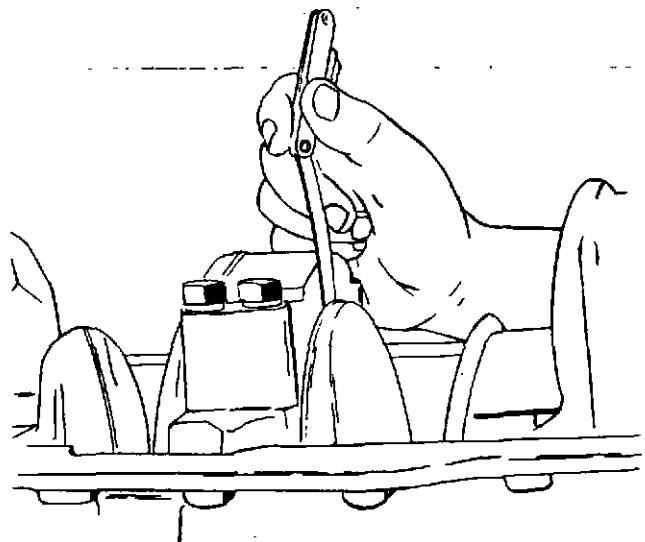

Figure 5-41. Checking Crankshaft End Thrust
5. After installing crankshaft with new bearings and center thrust bearing, check the crankshaft end thrust. Insert different dimension feeler gauges until one just fits between the center thrust bearing and the crankshaft as shown in figure 5-41. This dimension must be between 0.005 and 0.010 inch for new bearings, and the maximum allowable clearance of 0.015 inch. Insufficient clearance can be the result of a misaligned main bearing, or a burr or dirt on the inner face of the thrust bearing flange. Disassemble, clean, and reassemble as necessary. If clearance is still insufficient, polish the thrust bearing flanges on a flat surface with crocus cloth to obtain the proper clearance.